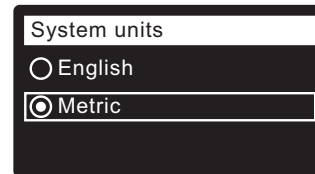

FIG. 29
9. **SYSTEM UNITS** If the desired system already has a dot next to it (See Figure 29), go to Step 10. Otherwise, press the DOWN (▼) or UP (▲) buttons to scroll to the desired system, then press the SELECT (O) button to choose it.
10. Press the SELECT (O) button.